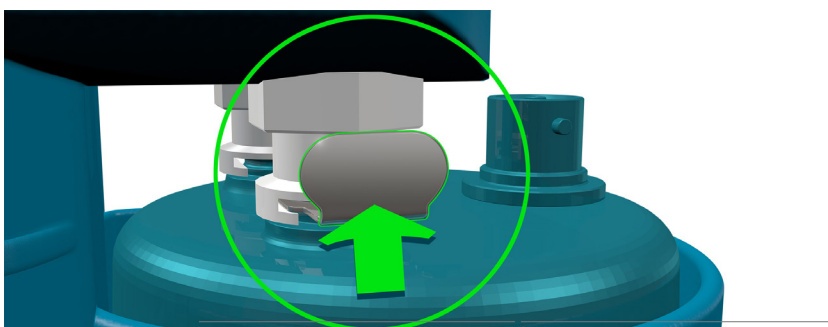

Figure 19
4. Press Canister Release Button and gently pull the bottom of canister down to remove from the CATALYST™ (**Figure 19**).